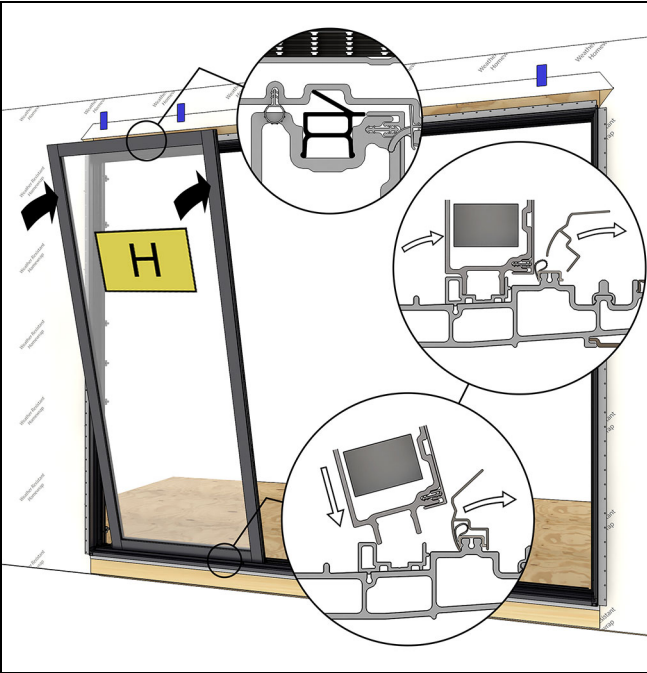

Figure 99
1. Install your (H) stationary panel from the exterior. Set the panel on the exterior track a few inches from the jamb and tip into place. Press the top in to engage the panel retainers in the frame. When fully seated you will hear an audible, "click". See Figure 99.